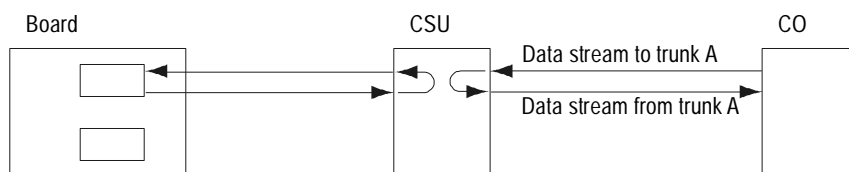

Figure 15. CSU Loopback
- Test the cabling between the CSU and either the board or the CO using a CSU loopback. In this mode, the CSU immediately transmits all data it receives back to the CO or board, depending on which end transmitted the data. To do a CSU loopback, follow instructions from your CSU manufacturer. Figure 15 shows two CSU loopbacks: one looping data back to the CO and the other looping data back to the board.